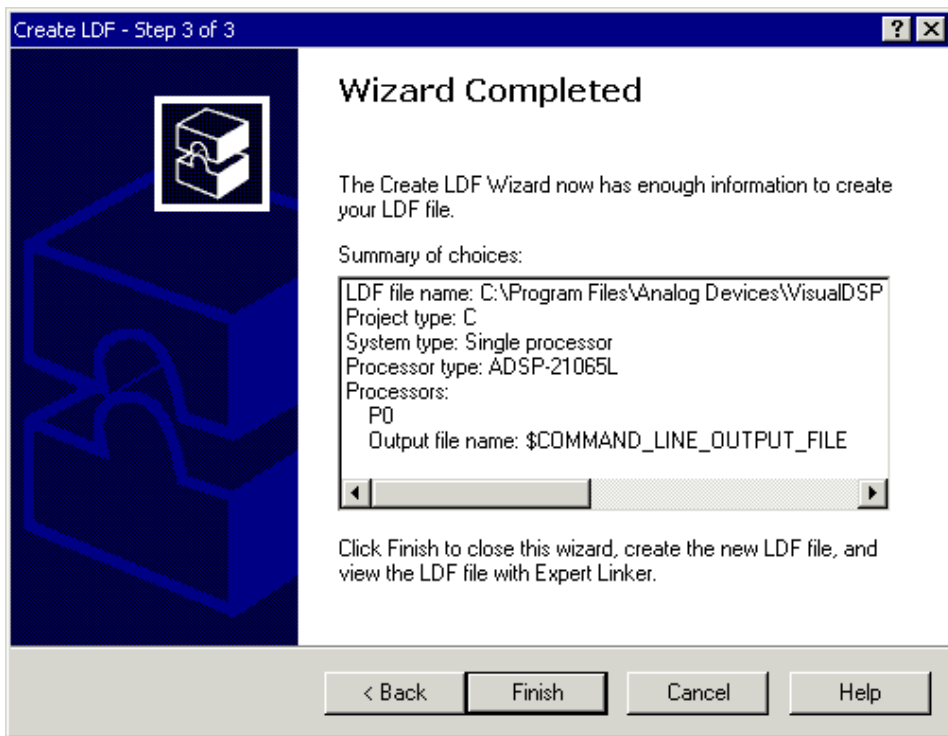

Figure 2-17. Create LDF – Step 3 of 3 Page
4. Accept the default values and click **Next** to display the next page (**Create LDF – Step 3 of 3**), shown in Figure 2-17.